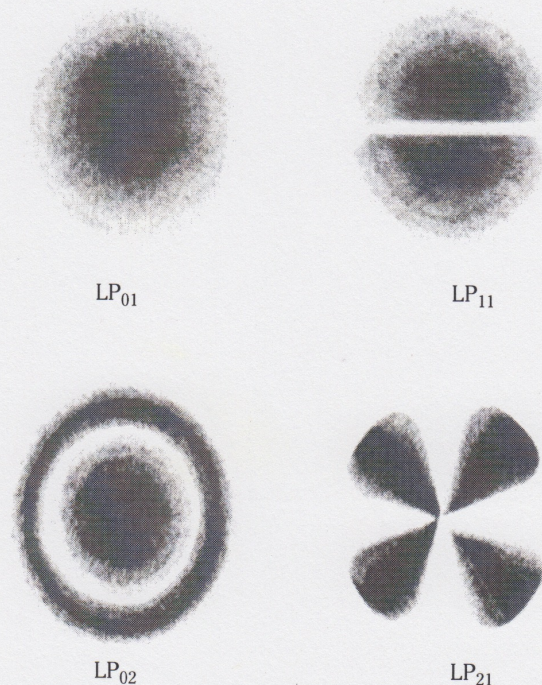

Figure 4.2. Irradiance pattern of some low order linearly polarized modes (this is a repeat of **Fig. 0.14**).
The electromagnetic field distributions of these modes are shown in **Fig. 4.2** (which is a repeat of **Fig. 0.14**). If we have a fiber with the proper V-number, these modes can be selectively launched by varying the position and angle at which a tightly-focused beam of the proper wave-length is projected onto the fiber core. When this is done, the near-field of the fiber output can be inspected and the field distributions of the individual modes can be identified.
6. Sketch the near-field images that you are able to obtain. Compare them with the LP_{1m} mode distributions shown in **Fig. 4.2**. Identify the patterns that appear to be pure LP_{1m} modes and those which are combinations of two or more LP_{1m} modes.